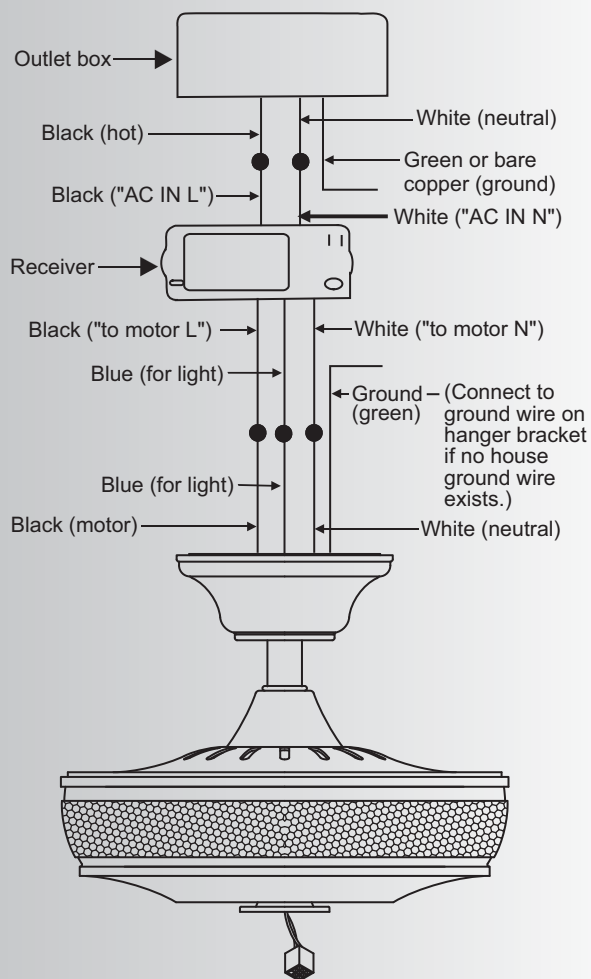

Fig. 14
Step 2. Motor to Receiver Electrical Connections: (Fig. 14) Connect the black wire from the fan to the black wire marked "TO MOTOR L" on the receiver.
Step 2. Motor to Receiver Electrical Connections: (Fig. 14)
Step 3. (Fig. 14) Receiver to House Supply Wires Electrical Connections:
Step 4. (Fig. 14) If your outlet box has a ground wire (green or bare copper) connect it to the fan ground wires; otherwise connect the hanging bracket ground wire to the mounting bracket. Secure the wire connection with a plastic nut provided. After connecting the wires, spread them apart so that the green and white wires are on one side of the outlet box and black and blue wires are on the other side. Carefully tuck the wire connections up into the outlet box.